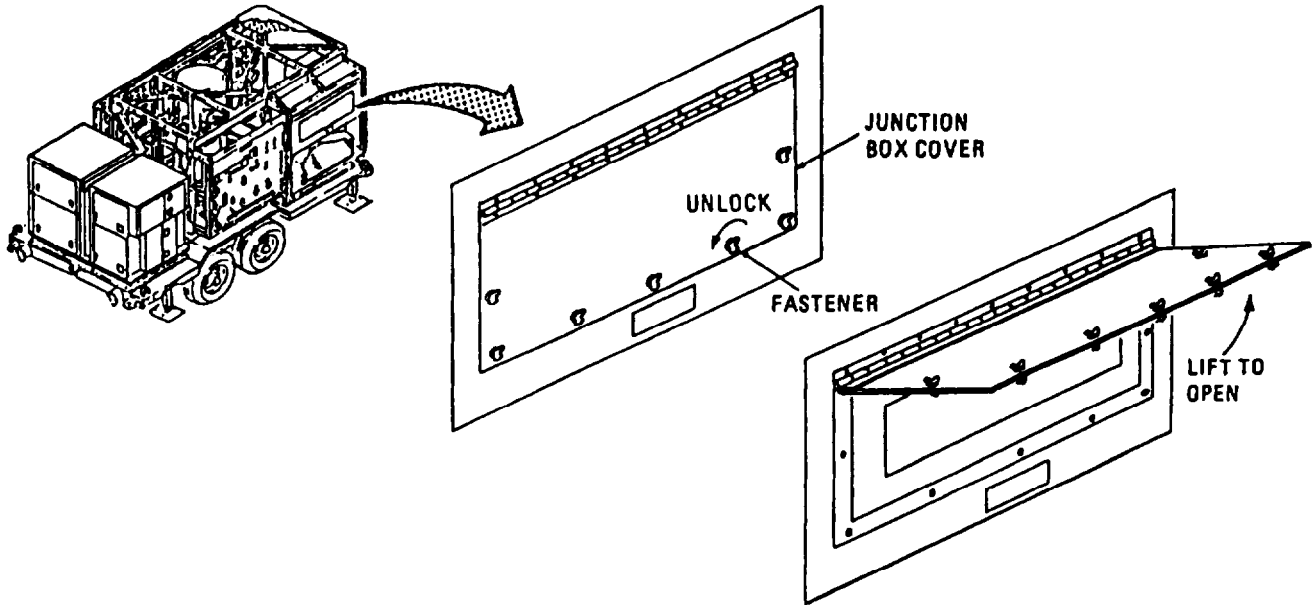

Figure 2-52. Junction Box Cover.
- (1) Twist and unlock seven fasteners (figure 2-52) on junction box cover.
- (2) Open junction box cover.